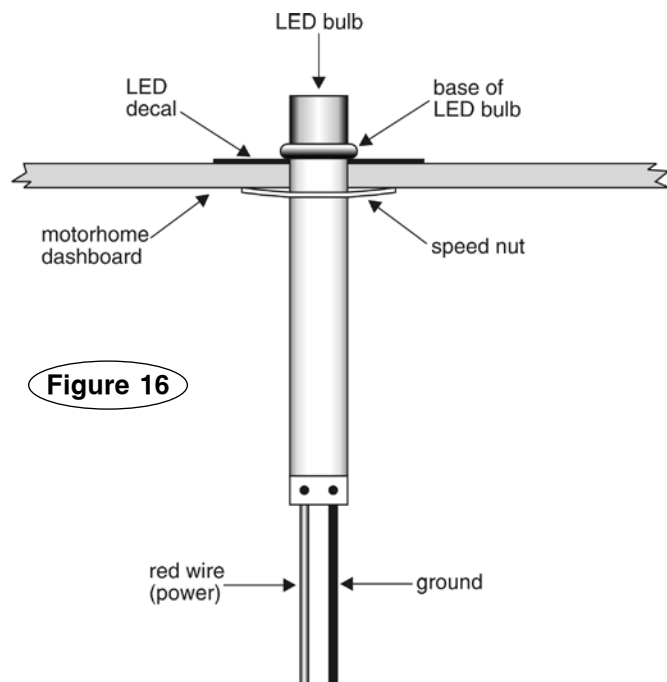

Figure 16
5. Center the LED decal (Figure 16) over the hole, and press it down. Or, you may choose to omit the decal, depending on your preferences.
6. From the top of the dashboard, slide the LED through the hole, wires first, until the base of the bulb (Figure 16) is flush to the top of the dash.
7. From the underside of the dash, fit both of the wires through the speed nut (Figure 16). Then push the speed nut up, against the dash, to secure the LED.